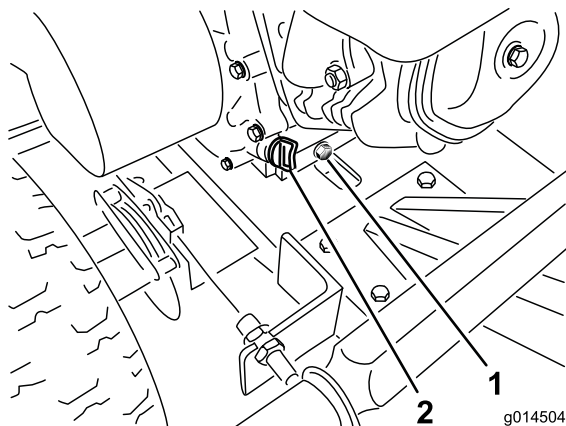

Figure 13
5. Remove the drain plug and drain the oil through the hole slot in the frame (Figure 13).
7. Remove the oil fill cap and slowly pour approximately 80% of the specified amount of oil into the engine (Figure 13).